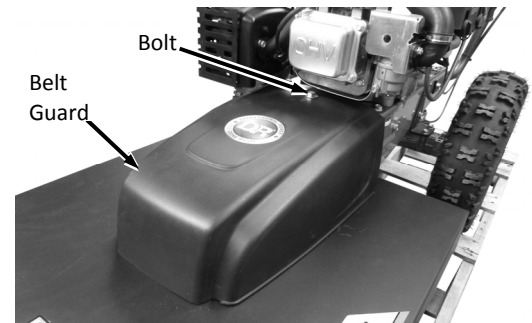

Figure 27
1. Remove the Belt Guard by unscrewing the Bolt using a 9/16" Wrench (Figure 27).